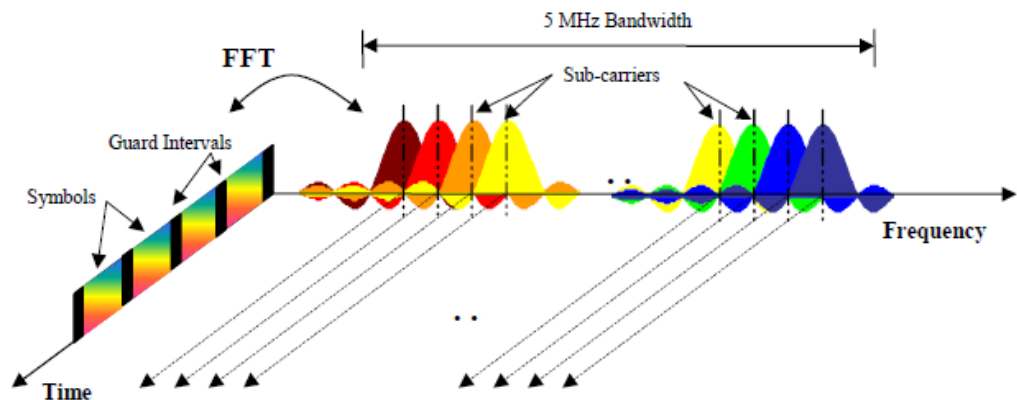

Fig. 1-1: Frequency-Time Representation of an OFDM Signal
figure 1-1 shows a representation of an OFDM signal taken from 3GPP TR 25.892 [2]. In this figure, a signal with 5 MHz bandwidth is shown, but the principle is of course the same for the other EUTRA bandwidths. Data symbols are independently modulated and transmitted over a high number of closely spaced orthogonal subcarriers. In EUTRA, downlink modulation schemes QPSK, 16QAM, and 64QAM are available.
The vector s_m is defined as the useful OFDM symbol. It is the time superposition of the N narrowband modulated subcarriers. Therefore, from a parallel stream of N sources of data, each one independently modulated, a waveform composed of N orthogonal subcarriers is obtained, with each subcarrier having the shape of a frequency sinc function (see figure 1-1).
One downlink slot consists of $N_{\text{symb}}^{\text{DL}}$ OFDM symbols. To each symbol, a cyclic prefix (CP) is appended as guard time, compare figure 1-1. $N_{\text{symb}}^{\text{DL}}$ depends on the cyclic prefix length. The generic frame structure with normal cyclic prefix length contains $N_{\text{symb}}^{\text{DL}} = 7$ symbols. This translates into a cyclic prefix length of $T_{\text{CP}} \approx 5.2 \mu\text{s}$ for the first symbol and $T_{\text{CP}} \approx 4.7 \mu\text{s}$ for the remaining 6 symbols. Additionally, an extended cyclic prefix is defined in order to cover large cell scenarios with higher delay spread and MBMS transmission. The generic frame structure with extended cyclic prefix of $T_{\text{CP-E}} \approx 16.7 \mu\text{s}$ contains $N_{\text{symb}}^{\text{DL}} = 6$ OFDM symbols (subcarrier spacing 15 kHz). The generic frame